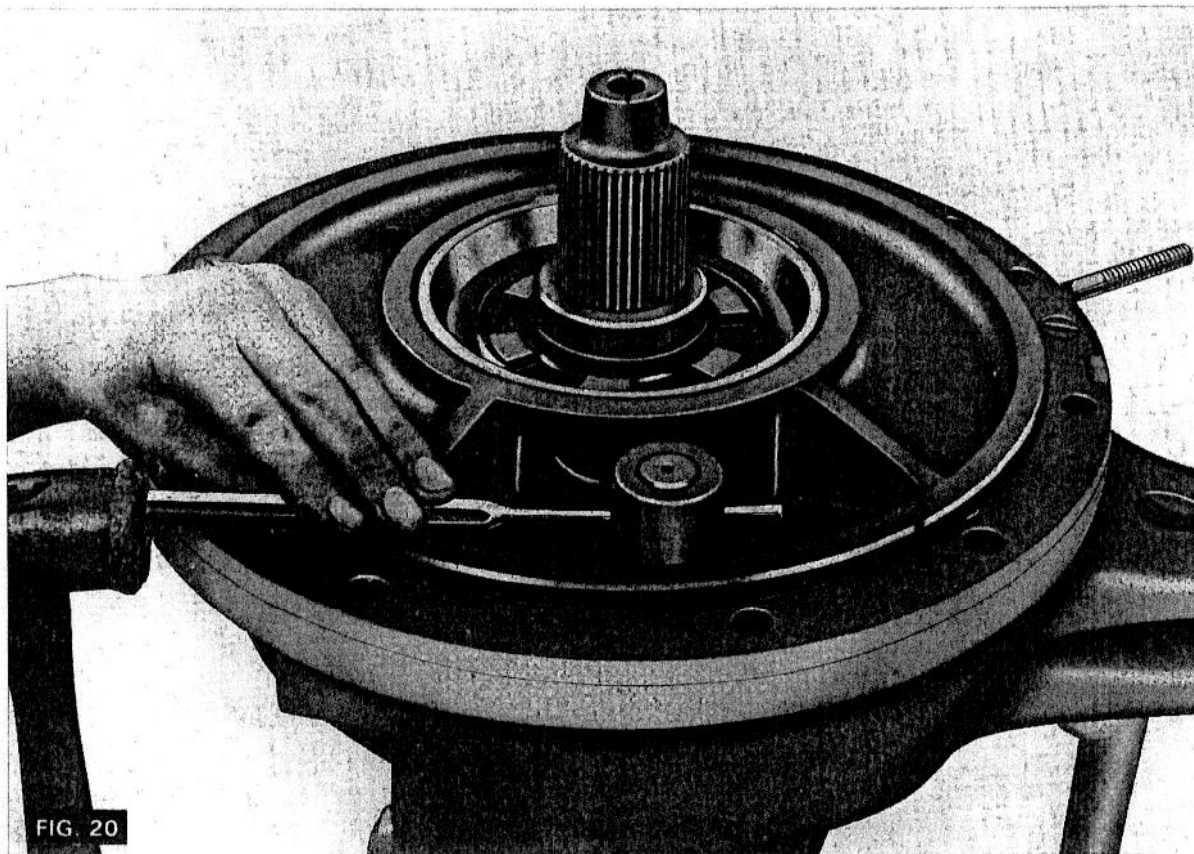

FIG. 20
2. (Fig. 20) Drive out the roll pin securing the differential lock shifter fork to its shaft.